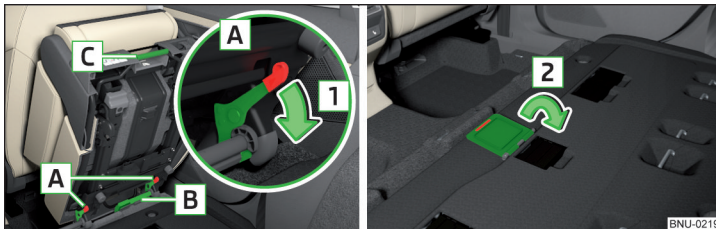

Fig. 93 Unlocking the seat / closing the cover
- › Unlock the seat by pressing the seat locks [A] in direction of arrow [1] » Fig. 93.
- › Remove the middle seat and close the cover for the socket in the floor » Fig. 93 on page 89.
- ▶ Before inserting the middle seat, open the cap for the socket in the ground opposite the direction of the arrow **2** » Fig. 93 on page 89.